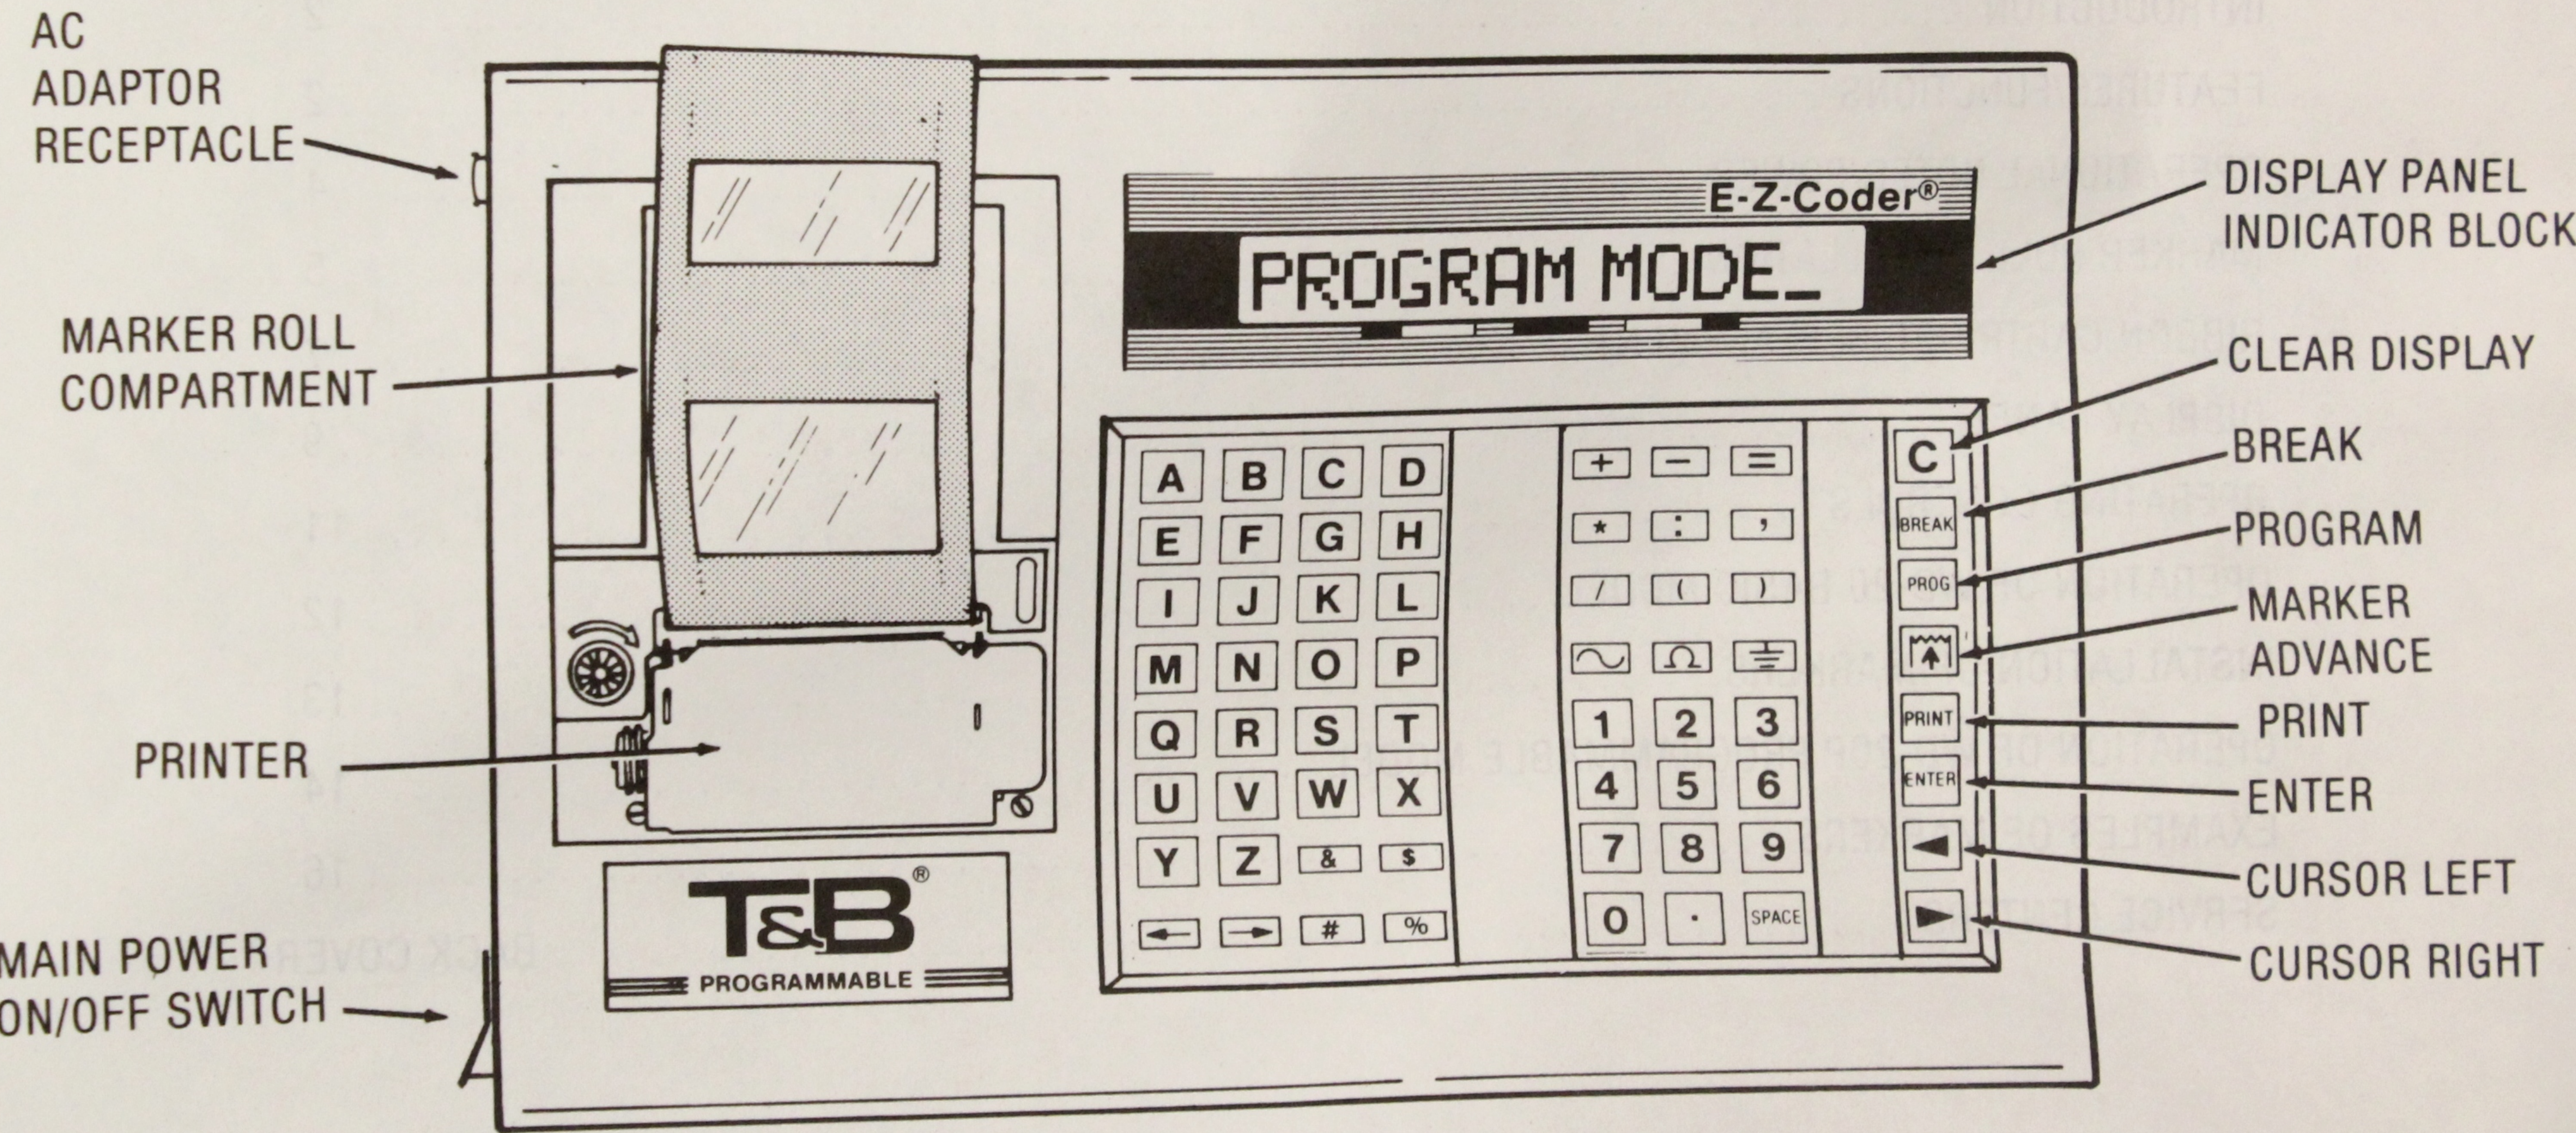

FIGURE 1
- 2. WD-20P E-Z-Coder® Printer, a programmable printer (shown in Figure 1).